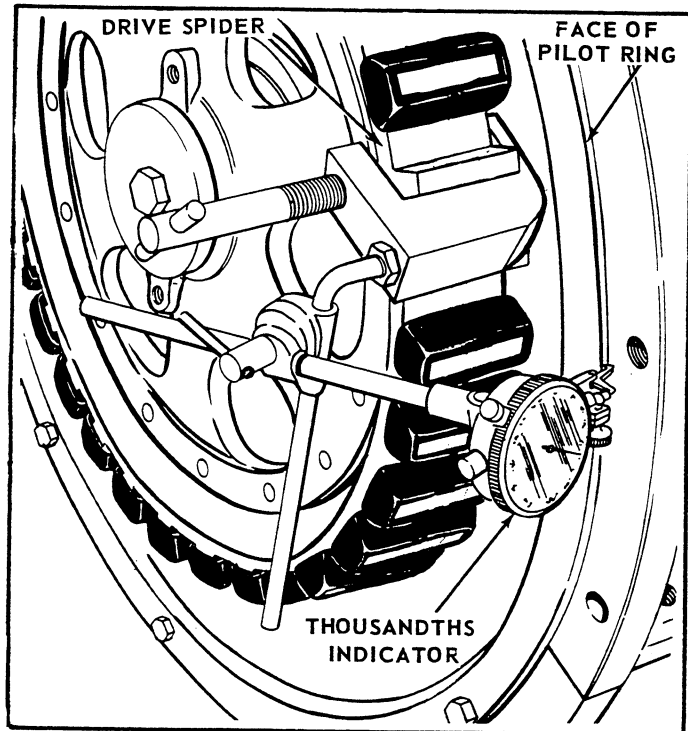

Figure 64. Checking the Pilot Ring for Runout.
C. Checking Marine Gear Pilot Ring. With the indicator bolted as in Paragraph 56B above, adjust the indicator stem so that it will ride on the pilot surface of the flange (Fig. 64). Rotate the drive spider and note the pilot surface runout must not exceed .010 inch for the SAE No. 0 flange, or .008 inch for the SAE No. 1 flange. This applies to a continuous 270 degree arc if the balance of the pilot surface is